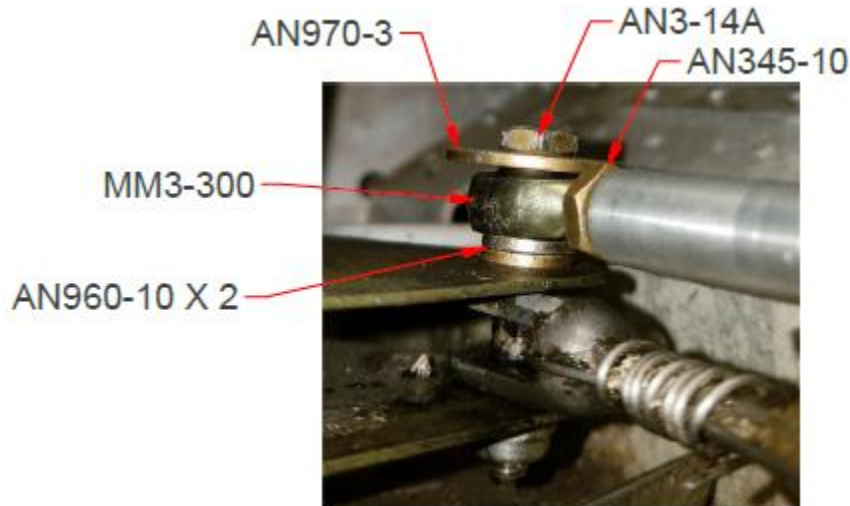

Figure 2-8
- 9.1. Remove the rear aileron bellcrank cable attachment bolt and replace with an AN3-14A, MM-3-300, 2 ea. AN960-10, and AN970-3 washer as shown in figure 2-8.